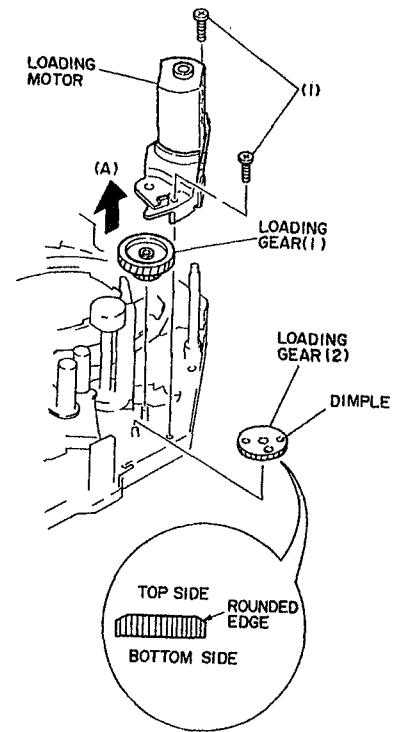

Fig. 2-3
### 2-3. Loading motor, loading gears (1)(2) (Fig. 2-3)
- 1) Remove two screws (1) holding the loading motor.
- 2) Remove the loading motor and loading gears (1) and (2) from chassis in the direction of arrow (A).